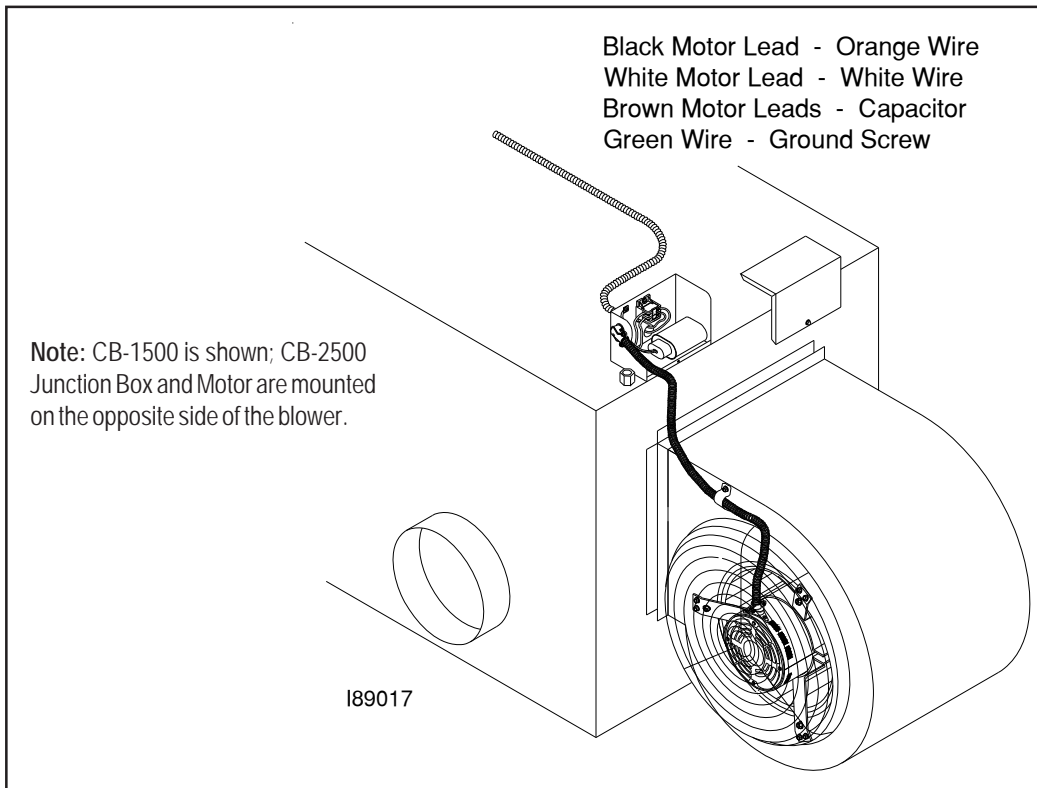

Figure 3C - Blower Installed on Furnace Cabinet
1. After the blower has been secured to the back of the furnace cabinet, install the electrical conduit with the blower motor leads into the 4" x 6" rear junction box on the top of the furnace cabinet as shown in Figure 3C.